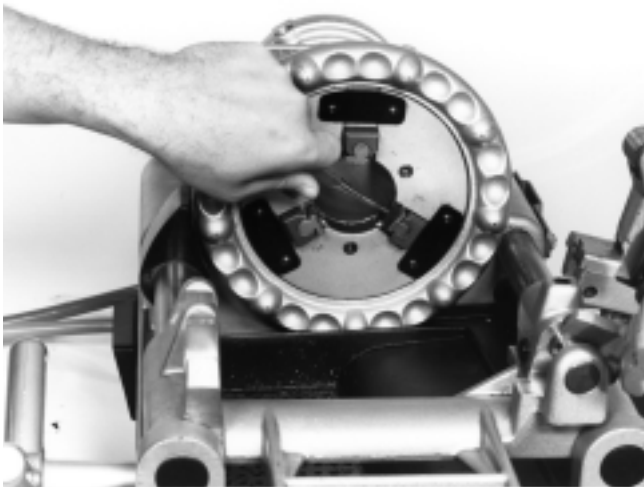

Figure 19 – Replacing Jaw Inserts
1. **To remove insert** — place punch into spring detente slot of jaw and push down. (See Figure 19.)